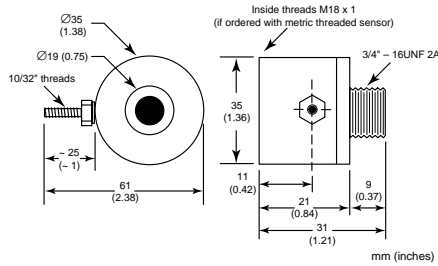

Figure 9: Air Purge Collar
**Air Purge Collar**—The air purge collar accessory (Figure 9) is used to keep dust, moisture, and other contaminants away from the lens. It must be screwed in fully. Air flows into the 10/32” fitting and out the front aperture. Clean or “instrument” air is recommended. *The air purge collar accessory is not needed with the air/water-cooled housing.*